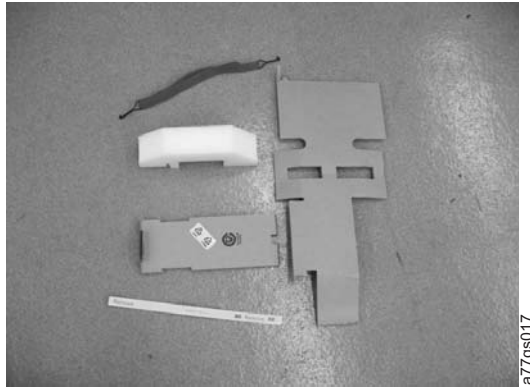

Figure 3-4. Packaging materials removed from library with the original-style picker
6. For libraries with the original-style picker, refer to Figure 3-4 on page 3-5 and ensure that you have removed all of the packaging material.